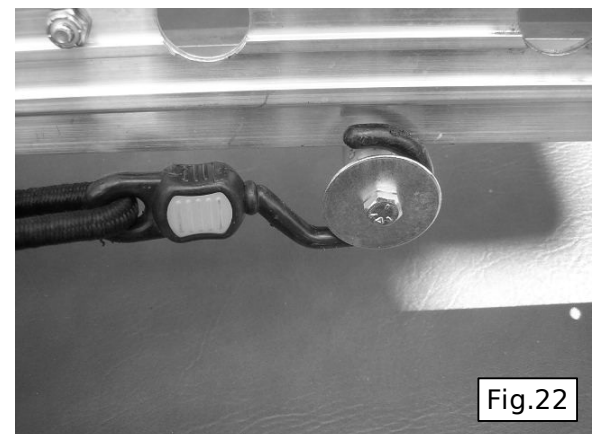

Fig.22
15. You can now hang your shock cords around the crossmembers for easy access as shown in Fig.22.